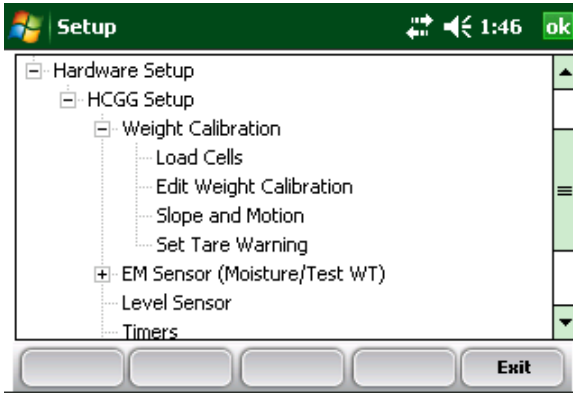

Figure 3-2: Setup menu with Load Cells selected
7. Select **Load Cells**, as shown in Figure 3-2. Follow the instructions on the screen.